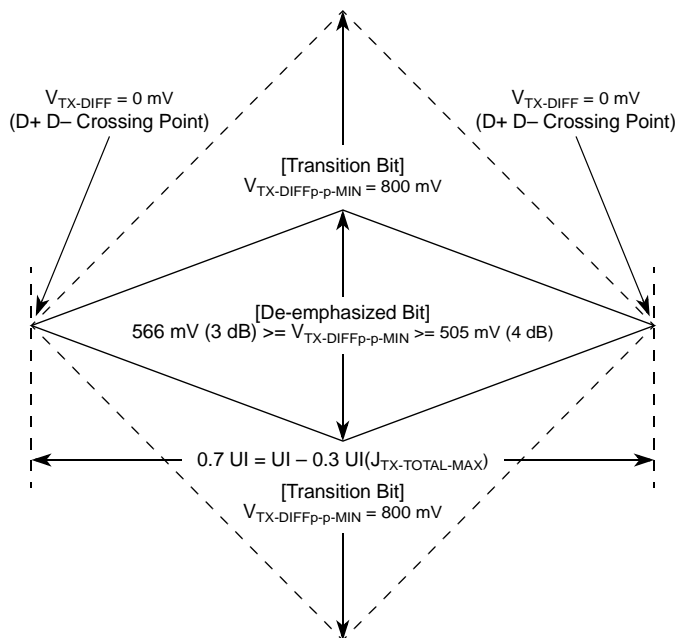
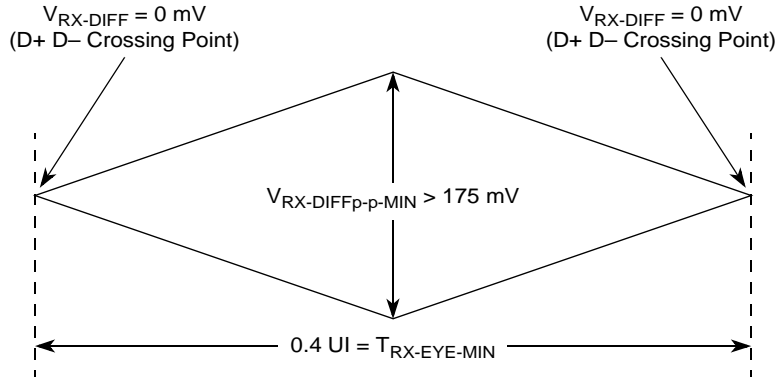
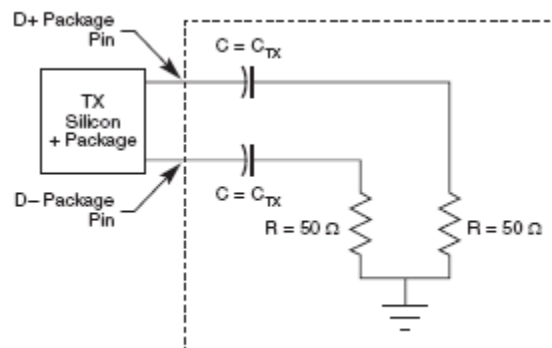

Figure 27. Minimum Transmitter Timing and Voltage Output Compliance Specifications
Figure 28. Minimum Receiver Eye Timing and Voltage Compliance Specification
Figure 29. Compliance Test/Measurement Load
2. Specified at the measurement point into a timing and voltage compliance test load as shown in Figure 29 and measured over any 250 consecutive TX UIs. (Also refer to the transmitter compliance eye diagram shown in Figure 27.)
4. The transmitter input impedance shall result in a differential return loss greater than or equal to 12 dB and a common mode return loss greater than or equal to 6 dB over a frequency range of 50 MHz to 1.25 GHz. This input impedance requirement applies to all valid input levels. The reference impedance for return loss measurements is 50 Ω to ground for both the D+ and D– line (that is, as measured by a vector network analyzer with 50- Ω probes, see Figure 29). Note that the series capacitors, C_{TX} , is optional for the return loss measurement.
5. Measured between 20%–80% at transmitter package pins into a test load as shown in Figure 29 for both V_{TX-D+} and V_{TX-D-} .
The TX eye diagram in Figure 27 is specified using the passive compliance/test measurement load (Figure 29) in place of any real PCI Express interconnect + RX component. There are two eye diagrams that must be met for the transmitter. Both diagrams must be aligned in time using the jitter median to locate the center of the eye diagram. The different eye diagrams differ in voltage depending on whether it is a transition bit or a de-emphasized bit. The exact reduced voltage level of the de-emphasized bit is always relative to the transition bit.
2. Specified at the measurement point and measured over any 250 consecutive UIs. The test load in Figure 29 should be used as the RX device when taking measurements (also refer to the receiver compliance eye diagram shown in Figure 28). If the clocks to the RX and TX are not derived from the same reference clock, the TX UI recovered from 3500 consecutive UI must be used as a reference for the eye diagram.
4. The receiver input impedance shall result in a differential return loss greater than or equal to 15 dB with the D+ line biased to 300 mV and the D- line biased to -300 mV and a common mode return loss greater than or equal to 6 dB (no bias required) over a frequency range of 50 MHz to 1.25 GHz. This input impedance requirement applies to all valid input levels. The reference impedance for return loss measurements for is 50 Ω to ground for both the D+ and D- line (that is, as measured by a vector network analyzer with 50- Ω probes, see Figure 29). Note that the series capacitors, C_{TX} , is optional for the return loss measurement.
The RX eye diagram in Figure 28 is specified using the passive compliance/test measurement load (Figure 29) in place of any real PCI Express RX component. In general, the minimum receiver eye diagram measured with the compliance/test measurement load (Figure 29) is larger than the minimum receiver eye diagram measured over a range of systems at the input receiver of any real PCI Express component. The degraded eye diagram at the input Receiver is due to traces internal to the package as well as silicon parasitic characteristics which cause the real PCI Express component to vary in impedance from the compliance/test measurement load. The input receiver eye diagram is implementation specific and is not specified. RX component designer should provide additional margin to adequately compensate for the degraded minimum Receiver eye diagram (shown in Figure 28) expected at the input receiver based on an adequate combination of system simulations and the return loss measured looking into the RX package and silicon. The RX eye diagram must be aligned in time using the jitter median to locate the center of the eye diagram.
The reference impedance for return loss measurements is 50 Ω to ground for both the D+ and D- line (that is, as measured by a Vector Network Analyzer with 50 Ω probes—see Figure 29). Note that the series capacitors, $C_{PEACCTX}$, are optional for the return loss measurement.
The AC timing and voltage parameters must be verified at the measurement point, as specified within 0.2 inches of the package pins, into a test/measurement load shown in Figure 29.